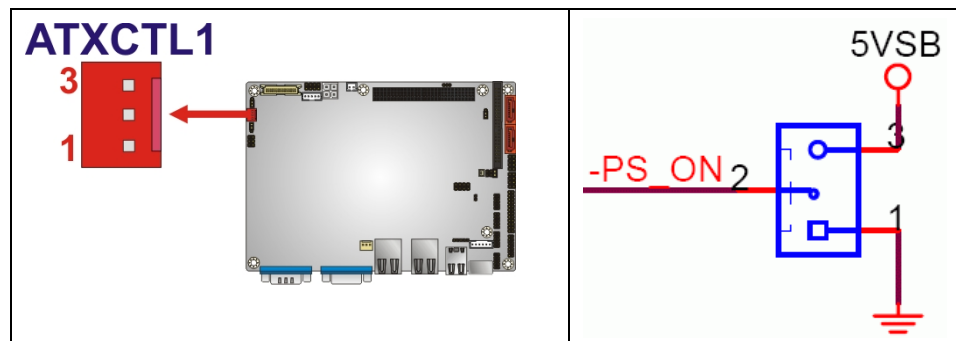

Figure 4-3: ATX Power Supply Enable Connector Location
- CN Location:** See **Figure 4-3**